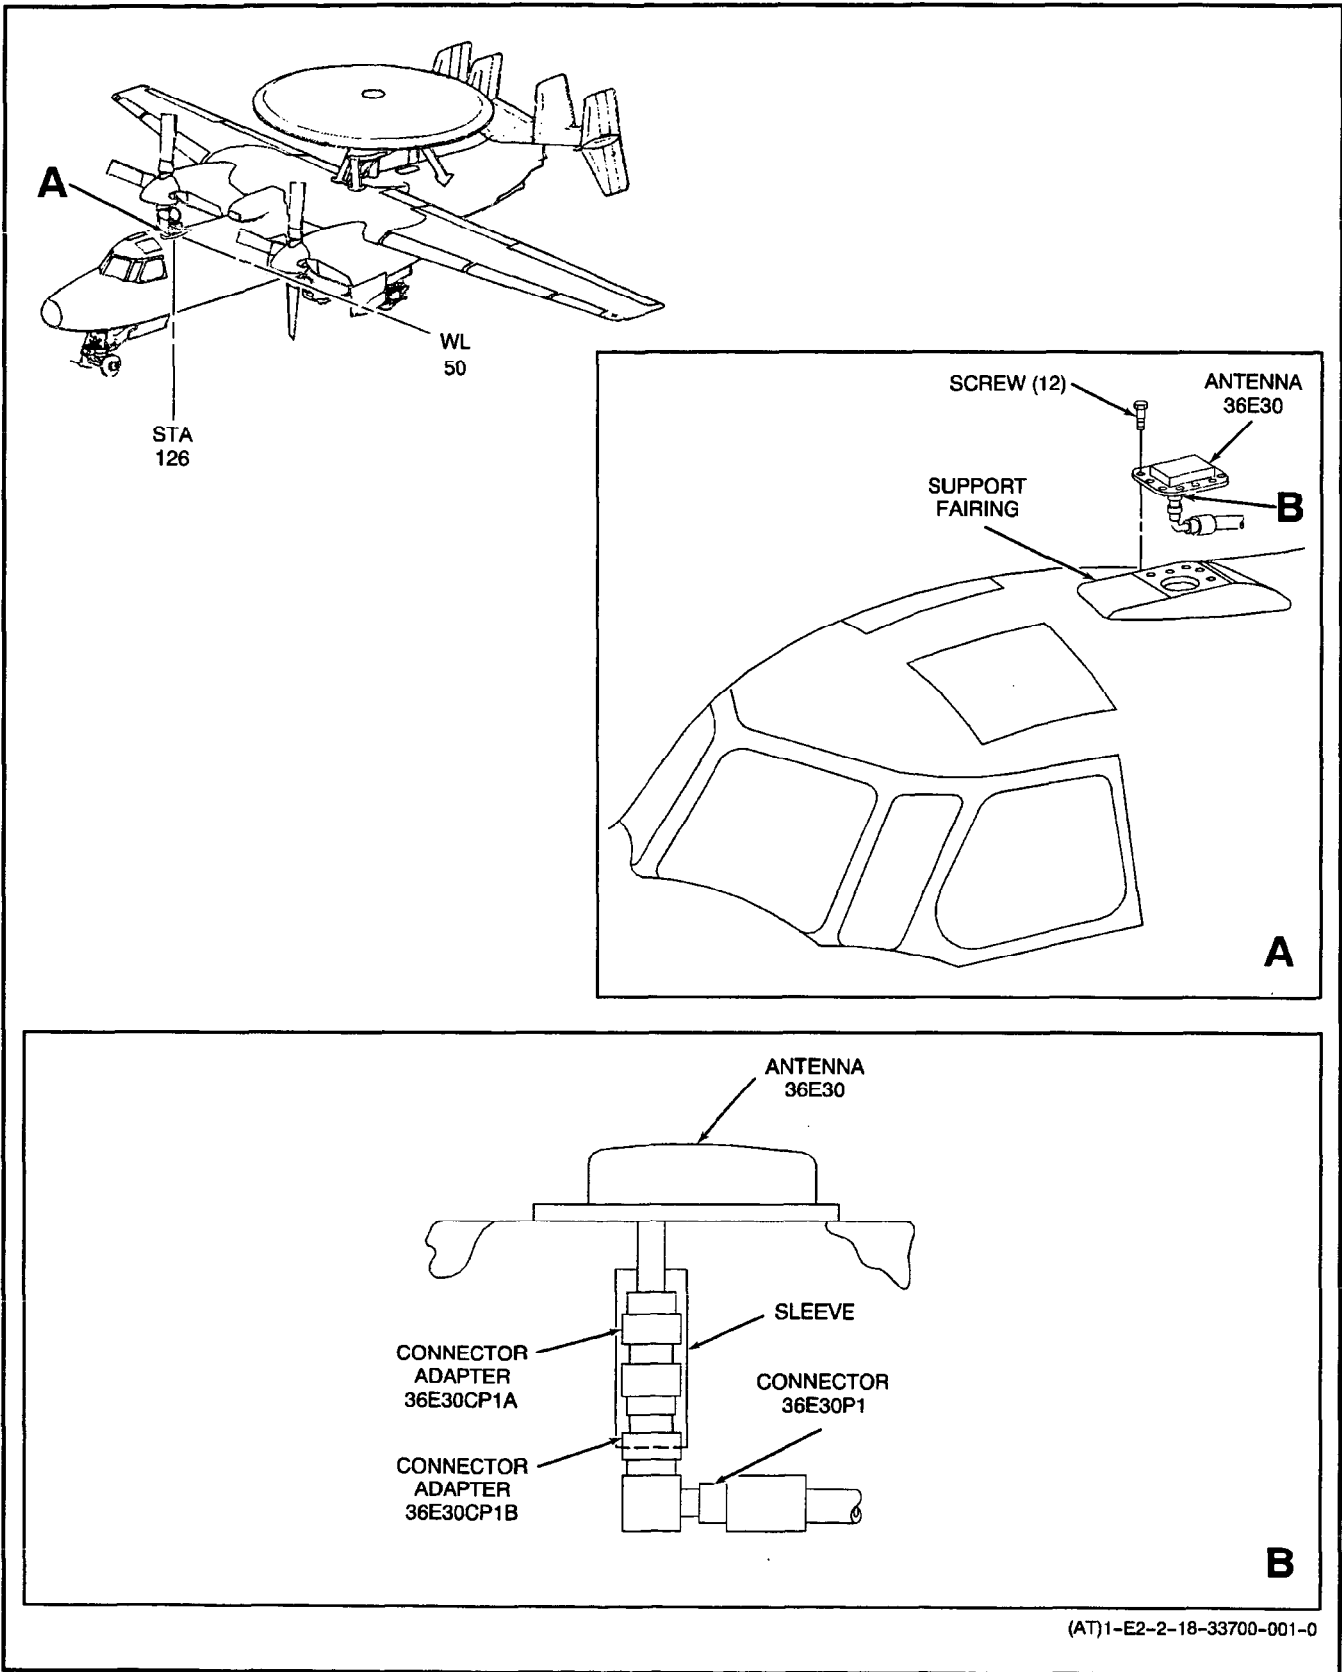

Figure 1. Removal and Installation of Global Positioning System Antenna AS-3822/URN
**3. REMOVAL.** (Figure 1.)
4. **INSTALLATION.** (Figure 1.)